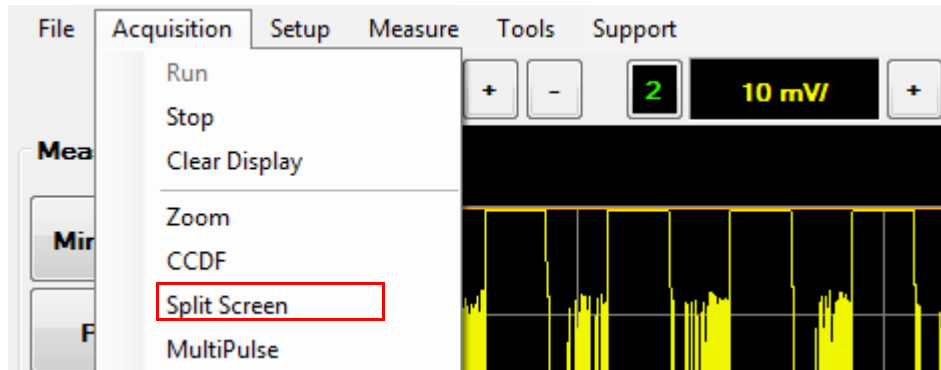

Figure 2-82 Split Screen selection in the Acquisition menu
- 1 Select **Acquisition > Split Screen** on the toolbar as shown in Figure 2-82.